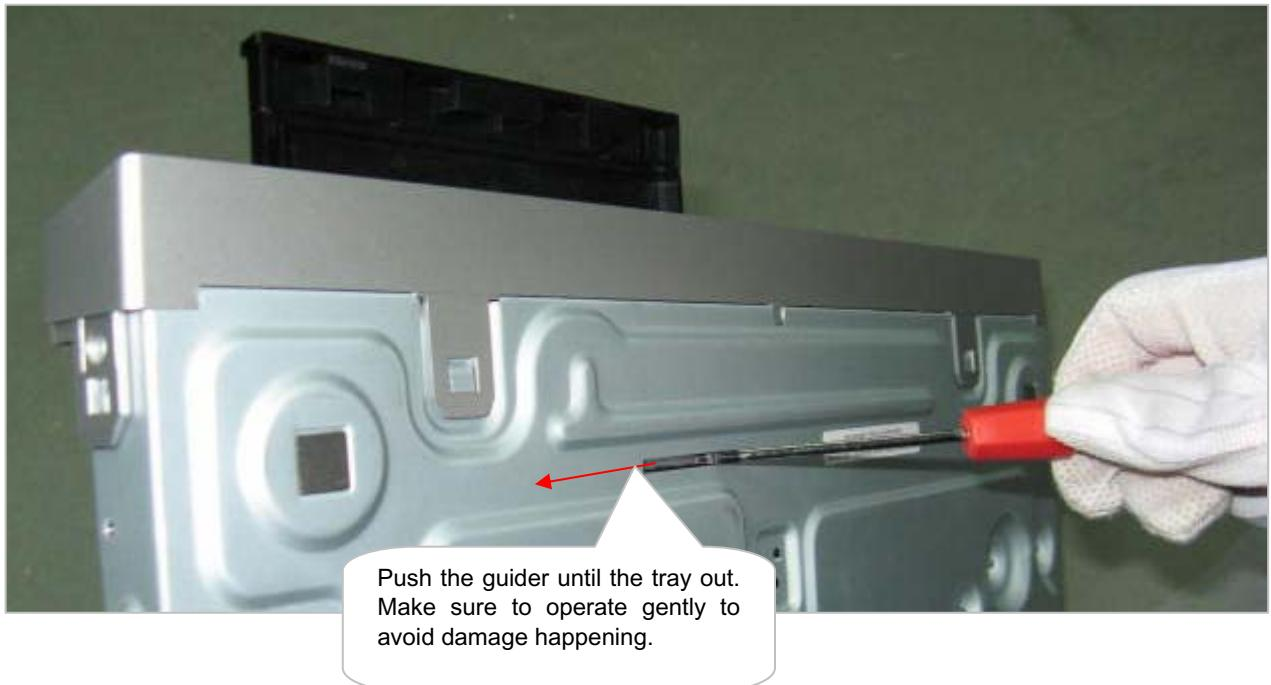

Figure 2
Step2: If it is necessary to dismantle Loader or Front Panel, the Front door should be removed first. (Figure 2)